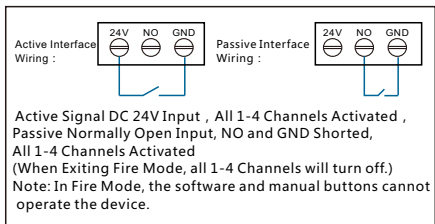

Figure 5. Fire Interface Description
5. Fire Interface:(see Figure 5).